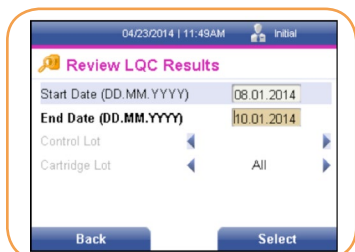

FIGURE 78
- Enter an end date using the format shown (Figure 78).